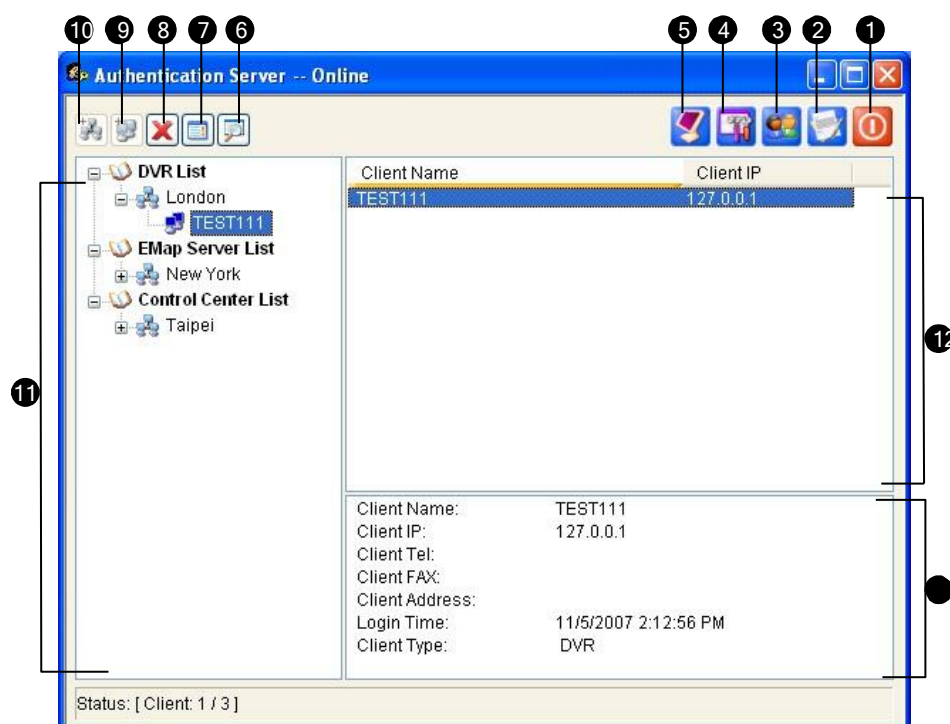

Figure 11-24
1. To create a group, click the **Add An Area** button (No.10, Figure 11-24).
2. To create a client under the group, click the **Add A Client** button (No.9, Figure 11-24). This displays the Client Information dialog box.
1. Click the **Account Setup** button (No.3, Figure 11-24) and select **Password Setup** to display the Password Setup window. The window is the same as the Password Setup window in Main System, except the following section.
1. Click the **Account Setup** button (No.3, Figure 11-24) and select **AD Setup** to access the active directory setup page. This dialog box appears.
1. Click the **Server Setup** button (No. 4, Figure 11-24). This dialog box appears.
4. Click the **Start/Stop Service** button (No. 5, Figure 11-24) to start the services.